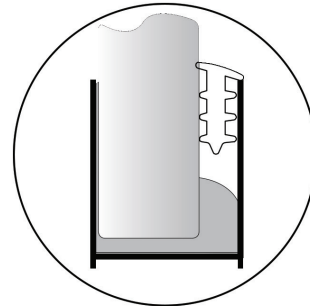

FIG 9.
- Starting at the top of the wall channel, from outside shower, spray with warm soapy water then insert rubber wedge seal into gap (removing plastic wedges if used)(FIG 9). Leave rubber wedge protruding 40mm at top to cut off later.